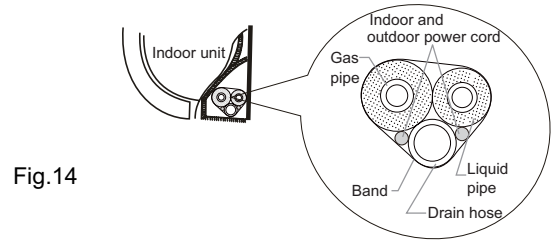

Fig.14
- (1) Bind the connection pipe, power cord and drain hose with the band. (As shown in Fig. 14)